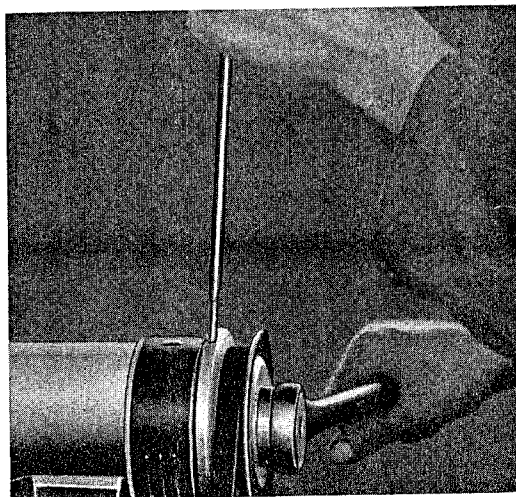

Fig. 88
1. Loosen generator pulley retaining nut (use 36 mm wrench). For loosening and fastening the nut, insert a screwdriver into the recess at the inner edge of the pulley and brace against the top housing bolt of the generator (Fig. 88).